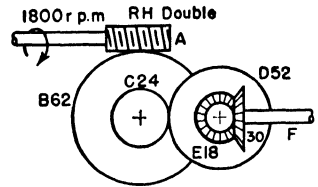

Fig. P 11.2
11.2. Determine the speed and direction of rotation of shaft *F* in the gear train shown in Fig. P 11.2.